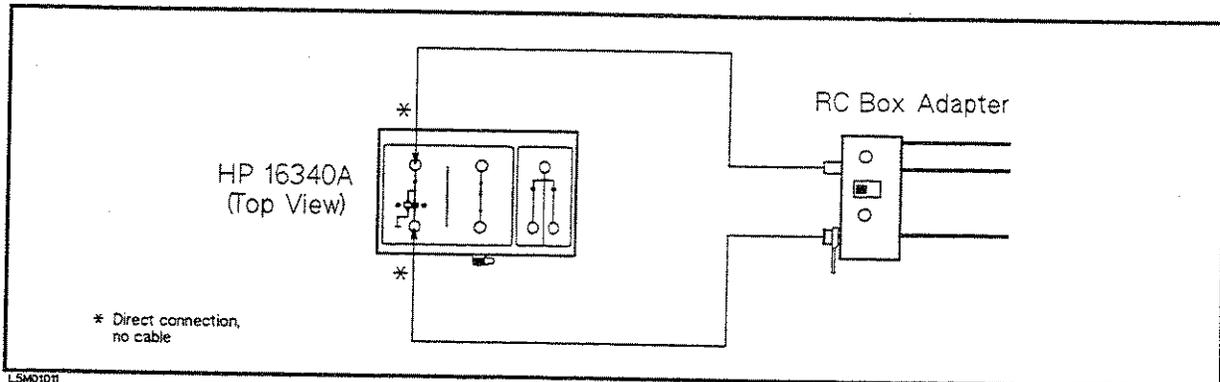

Figure 9-8. RC Box Connection for $10^{11} \Omega$ Resistor
20. Perform the test for all settings listed in Table 9-4. The source voltage must be turned OFF after each test. In the test for the $10^{11} \Omega$ resistor, connect the RC Box Adapter to the 10^{11} terminals and set the 10^{11} switch to the BNC connector position as shown in Figure 9-8.